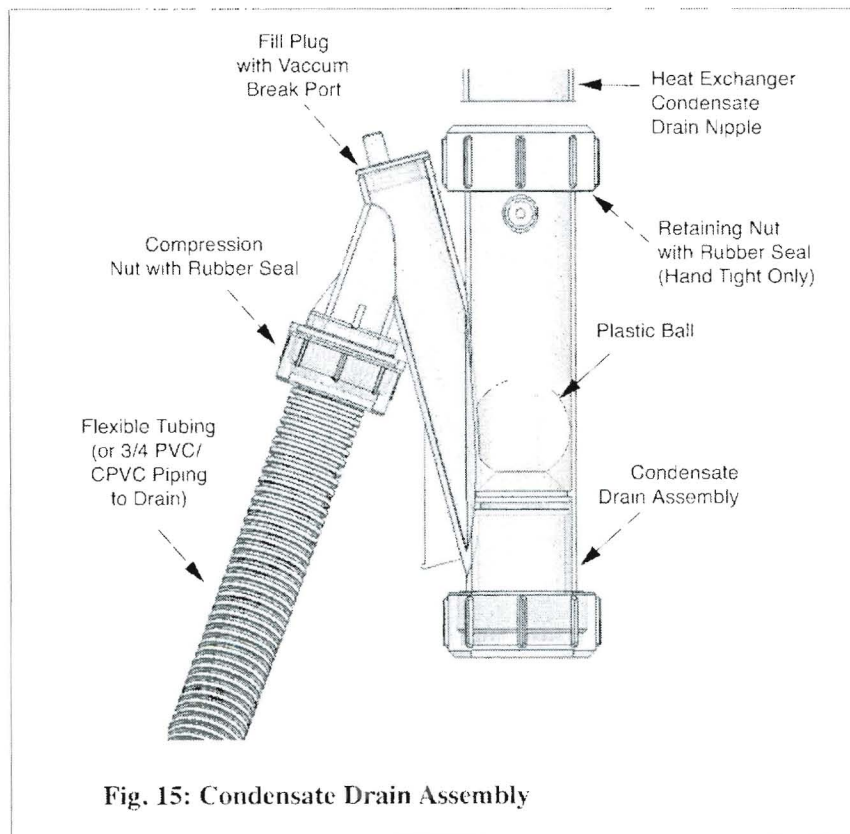

Fig. 15: Condensate Drain Assembly
1. Locate the condensate drain assembly and install as shown in Fig. 15 page 23.